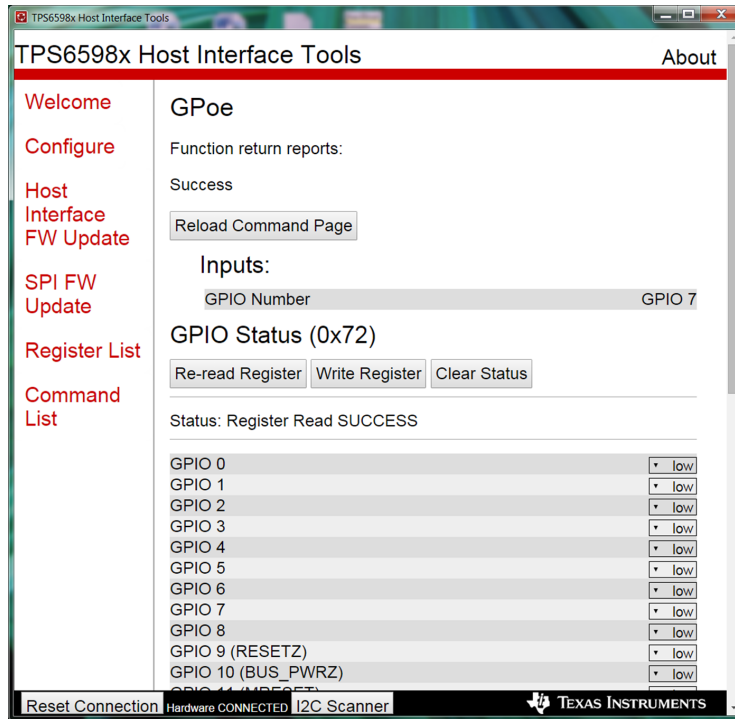

Figure 11. Using GPoe 4CC Command
- Step 1. Send GPoe 4CC command as shown in Figure 11.